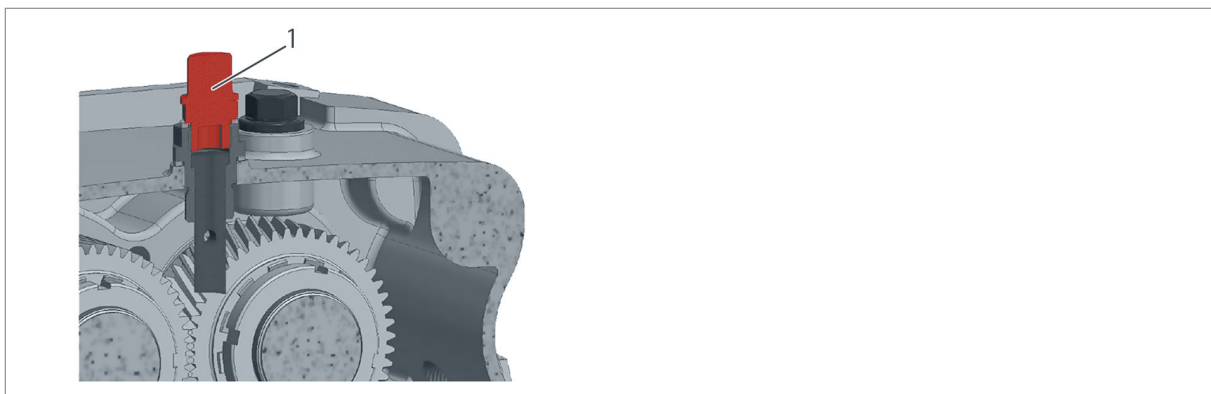

Fig. 9: Ventilation filter on the bearing casing
5. ➔ Remove the ventilation filter (Fig. 9) from the bearing casing and store it safely. Then close the opening with a blind plug.